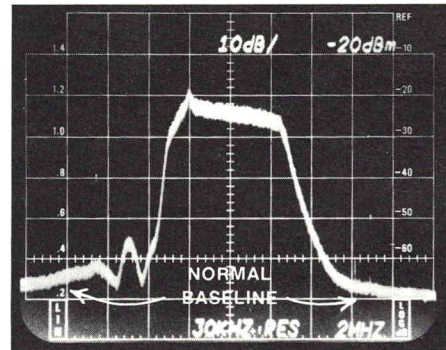
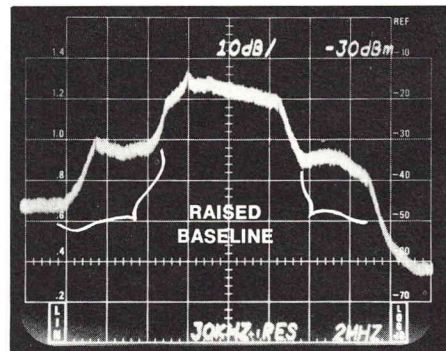

Figure 15. Normal Display
Figure 16. Overload Display
4. A high power R.F. transmitter can easily overload the mixer in the spectrum analyzer. R.F. test points should be "padded down" to 0 dBm **before** connecting the spectrum analyzer to the test point. An overload generally appears as an erratic display similar to Figure 16. Insert attenuation with the internal or external pads until the display appears similar to Figure 15 and remains stable.